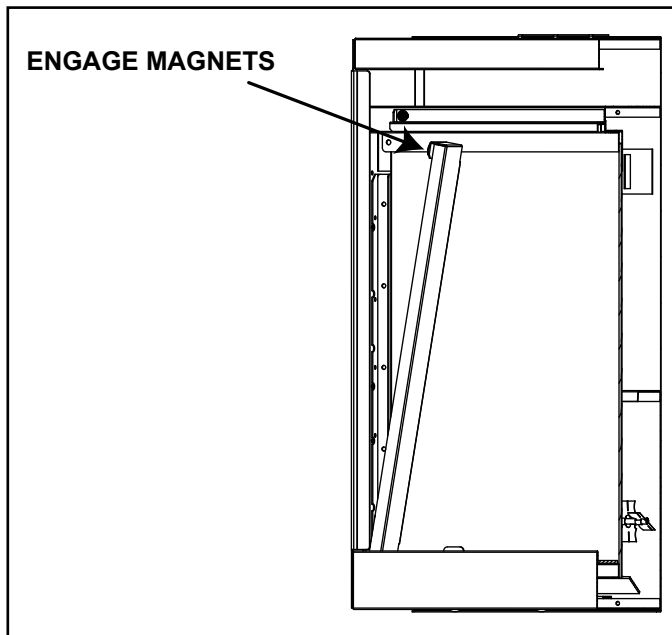

Figure 4.10 Install Side Panels
1. Install one panel into each side (left and right) of the appliance. Slide the bottom of the panel into place, and rotate the top up and into place. The magnet will hold the panel to the side of the appliance. See Figure 4.10.